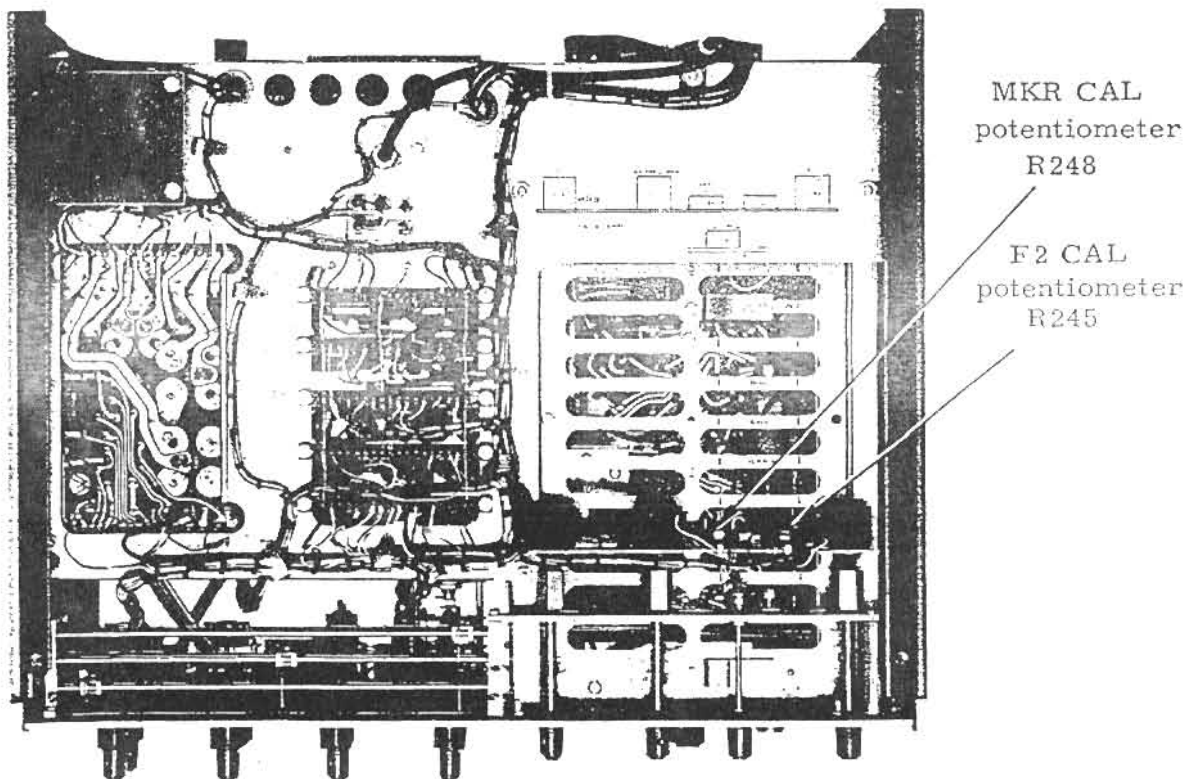

Figure 4-5 Model 610C Sweep Generator, Top View
19. Rotate the FREQ SELECTOR switch through the CW F1, CW MKR, and CW F2 positions and verify that the voltages at CW MKR and CW F2 are within $\pm 25\text{mV}$ of the voltage at CW F1. If the CW MKR voltage is out of tolerance, adjust the MKR CAL potentiometer R248, which is located next to the VAR FREQ MKR potentiometer R247 at the top of the instrument. See Figure 4-5. If the CW F2 voltage is out of tolerance, adjust the F2 CAL potentiometer R245, which is located next to the F2 potentiometer R244 at the top of the instrument. See Figure 4-5.